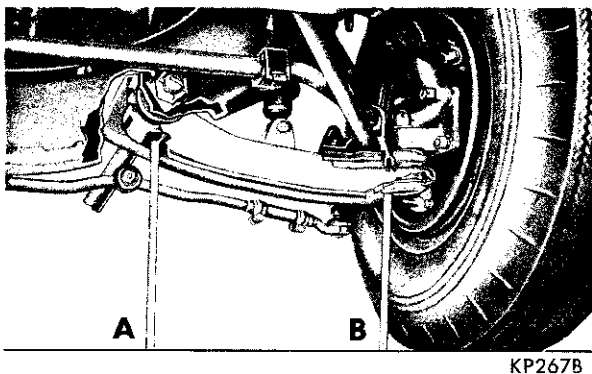

Fig. 1—Measuring Front Suspension Heights (Imperial)
(1) Clean all foreign material from the bottom of the lower ball joint assemblies and from the bottom of the lower control arm bushing housings between the flanges of the arms.
(2) Jounce the vehicle several times releasing it on the downward motion.
(3) **On Imperial Models**, measure the distance from the lowest point of one of the lower control arm bushing housings to the floor (measurement A) and from the lowest point of the flat portion on the bottom of the lower ball joint on the same side (measurement B) to the floor (Fig. 1). **Measure only one side at a time.**